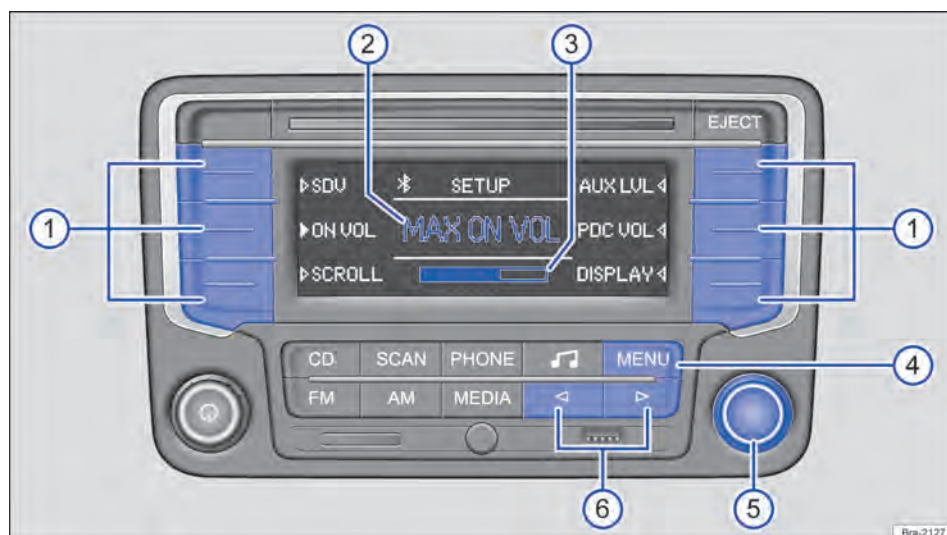

Fig. 150 SETUP menu: set the on volume.
- Press the unit button **[MENU]** from any menu → Fig. 150 ④.
- Press the function buttons to open the respective settings menu → Fig. 150 ①.
- Turn the setting knob to change current settings → Fig. 150 ⑤.
- **OR:** briefly press the unit button **[◀]** or **[▶]** to change the current settings → Fig. 150 ⑥.
- **OR:** if the unit button **[MENU]** → Fig. 150 ④ is briefly pressed.
MAX ON VOL → Fig. 150 ② is displayed on the centre of the screen, and the volume bar is displayed directly underneath → Fig. 150 ③.